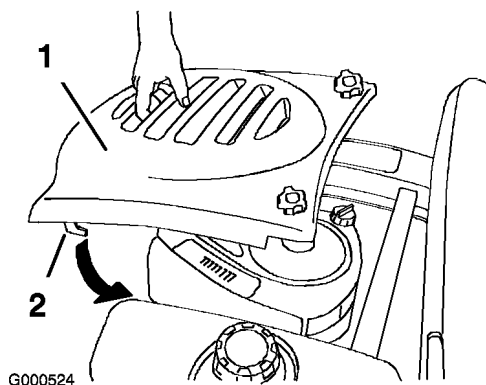

Figure 18
2. To install the hood, put the hooks into the slots and slide forward (Figure 18).